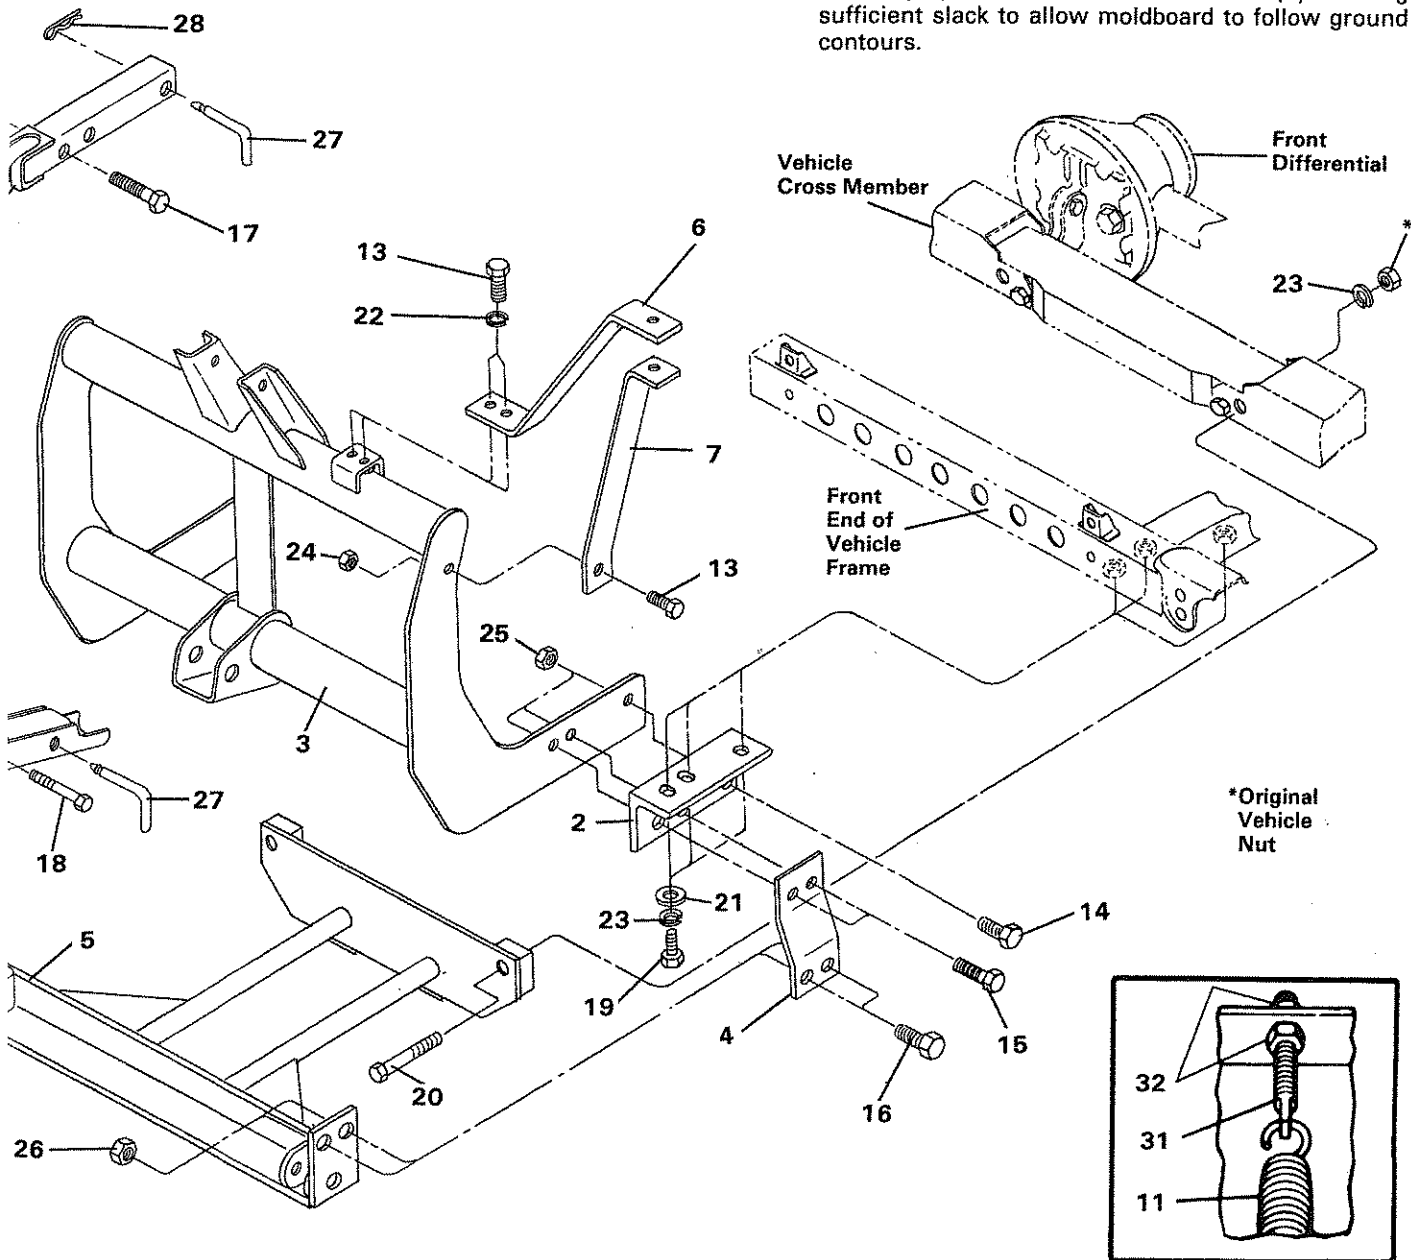

FIGURE 1
- Attach Lift frame (3) and Straps (4) to Mounting Angles (1 & 2) using 1/2 x 1-3/4" Bolts (15) and 1/2 Locknuts (25). Install 1/2 x 1-1/4" Bolts (14) and 1/2 Locknuts (25) in rear hole of Mounting Angles (1 & 2) and Lift Frame (3).
- Remove the outer suspension bolt and nut from each side of vehicle cross member. Save the nuts for reuse. Place Clevis Frame (5) in position and attach to Straps using 5/8 x 1-3/4" Bolts (16) and 5/8 Locknuts (26). Attach rear of Clevis Frame (5) to vehicle cross-member using 12mm x 110mm Bolts (20), 12mm Lockwashers (23) and original vehicle nuts.
- Tighten all fasteners as shown in torque chart beginning with those securing Mounting Angles (1 & 2) to Lift Frame (3) and Straps (4).
- F. Attach Light Brackets (6) to Weld Nuts in Lift Frame (3) using 3/8 x 1-1/4" Bolts (13) and 3/8 Lockwashers (22). Assemble Light Brace (7) to Light Bracket (6) using 3/8 x 1-1/4" Bolts (13). Using Light Brace (7) as a template, drill a 7/16" hole through Lift Frame (3) side plate. Attach using 3/8 x 1-1/4" Bolts (13) and Locknuts (24). Attach snow plow lights to Brackets (6 & 7). Before tightening bolts, make certain vehicle hood will clear back of snow plow lights. Adjust as needed and tighten all fasteners.
- I. Assemble Electro-Touch Unit to support arm (8) with 5/8 x 3-1/2" Bolt (18) and lift arm (9) using 5/8 x 2-3/4" Bolt (17) and 5/8 Locknuts (26). Install on Lift Frame (3) using quick disconnect pin (27) and hair pin cotter (28).
- K. Attach pivot bar (10) to moldboard (42) using pivot bolts (33) coated with chassis lubricant, and 5/8" locknut (36).
- L. Attach trip springs (11) to pivot bar (10) and moldboard (42) with eye bolts (31) and locknuts (32). Flat end of eye bolt (31) must be in a vertical position, as shown in Figure 1, to hinge properly when moldboard (42) trips. Proper tension is attained when trip spring (11) coils begin to separate and then tightening top locknut (32) four additional turns. Tighten bottom locknut (32) to secure eye bolt (31) in position. See Fig. 1.
- M. Assemble A-frame (12) to pivot bar (10) using king bolt (34) and 5/8" locknut (36). Grease king bolt (34) prior to installation.
- N. Install Power-Angling Rams with fitting end to the A-frame (12). Clevis using 5/8 x 3-1/4" bolt and 5/8" locknut (packed in hardware bag 08363 in Electro-Touch carton). Attach piston end of ram to pivot bar (10) using 5/8 x 4-1/2" bolt (35) and 5/8" locknut (36).
- O. Straighten end of plow markers (37) so they will be vertical after installation. Attach using 1/4" x 1" bolt (39) clamp (38), 1/4" locknut (40), and lockwasher (41).
- P. Secure the Moldboard-Pivot Bar-A-Frame assembly to vehicle at Clevis Frame (5) using quick pins (29) and cotters (30). Attach lift chain to lift arm (9) allowing sufficient slack to allow moldboard to follow ground contours.